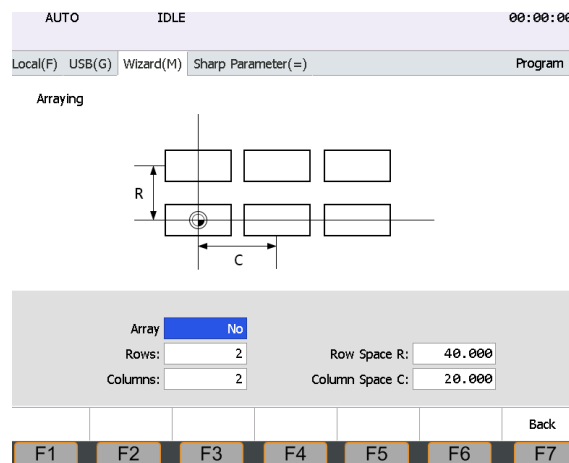

Figure 7-3 Array machining
1. <Program> → <M Wizard> → < F7 Array> (pop-up interface shown in figure 7-3).